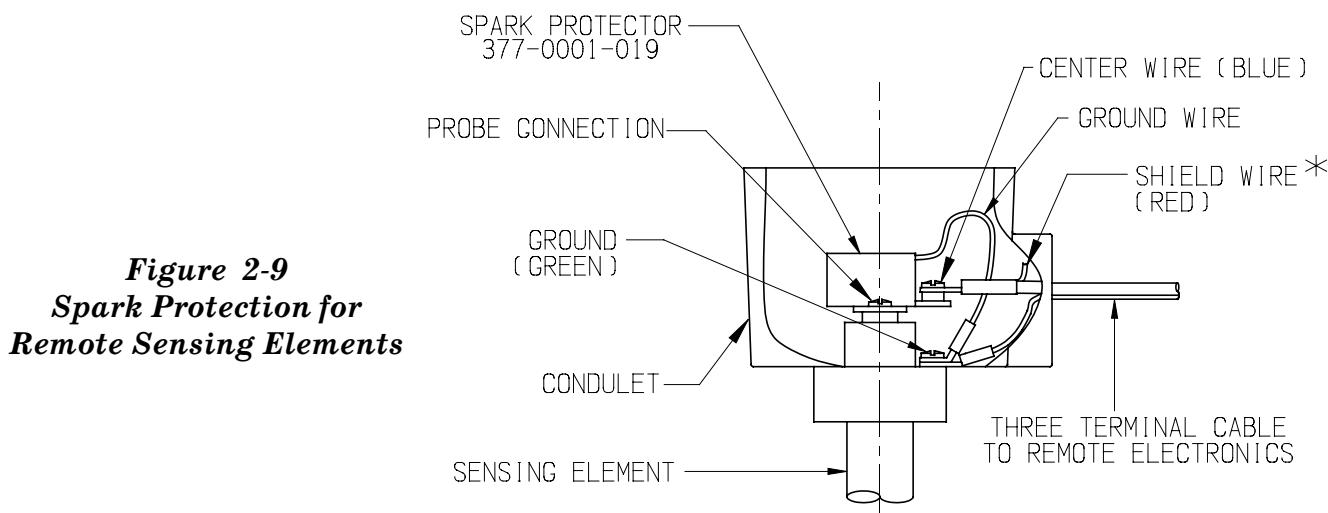

Figure 2-9
- D. Connect the coax cable center wire (cw) to the spark protector and the ground wire (gnd) to the ground screw as shown in **Figure 2-9**.